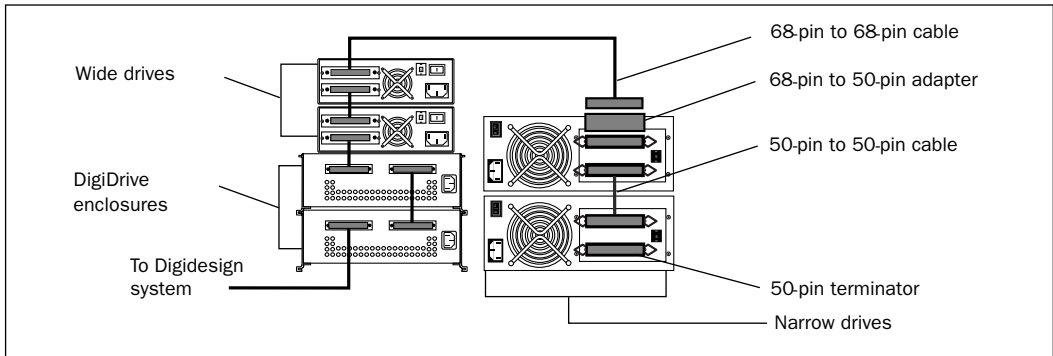

Figure 3. Mixed Drive Layout
- ◆ You must place the wide drives physically on the SCSI bus before the narrow drives (see Figure 3).
- ◆ Always use a 68-pin to 68-pin cable and a wide-to-narrow terminating adapter (68-pin to 50-pin) for the connection between the last wide drive and the first narrow drive (see Figure 3). The adapter terminates unused data lines in the cable to ensure data integrity on the SCSI bus.